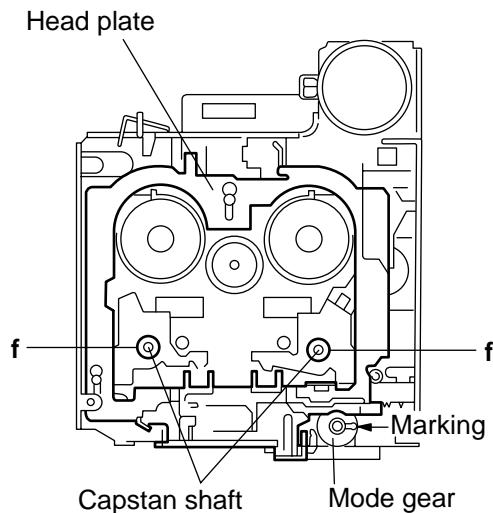

Fig.9
9. Pull out the mode gear. (see Fig. 9)
■ Removing the flywheel ass'y (see Fig. 9)
(see Fig. 9)